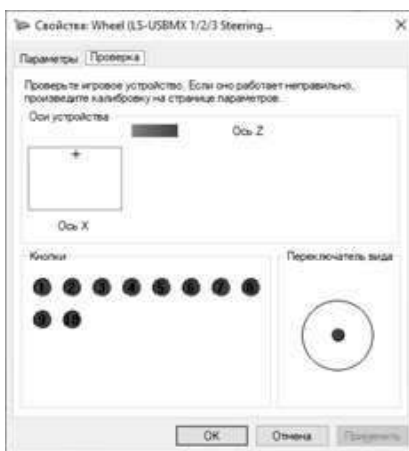

Fig. 9
- Press «Properties» button in the window that opens (see Fig. 9) you can check the operation of the axes and keys. The «Parameters» tab allows you to calibrate the steering wheel.